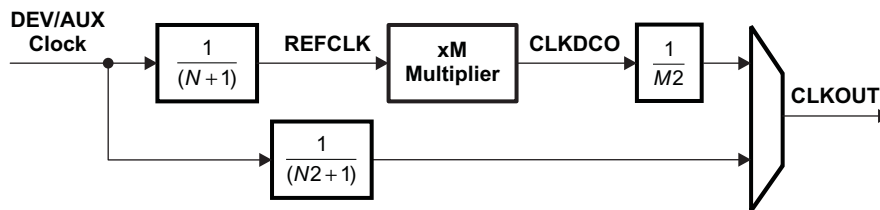
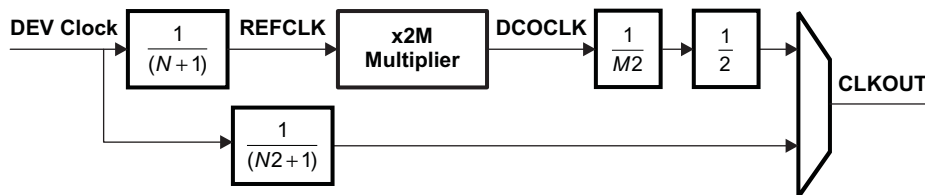

Figure 7-17. Top-Level PLL Simplified Block Diagram
Figure 7-18. PLL\_ARM Simplified Block Diagram
The device contains 12 top-level PLLs, and 4 embedded PLLs (within the ARM Cortex-A8, PCIE, SATA, and CSI) that provide clocks to different parts of the system. Figure 7-17 and Figure 7-18 show simplified block diagrams of the Top-Level PLL and PLL\_ARM. In addition, see the System Clocking Overview (Figure 7-6) for a high-level view of the device clock architecture including the PLL reference clock sources and connections.
(1) This parameter describes the limits on the programmable multiplier value M. The multiplication factor for the PLL\_ARM is equal to 2 \* M (also see Figure 7-18).
(2) The PLL Multiplier supports fractional values (up to 18-bits of fraction) except when the PLL Multiplier is < 20 OR > 2045.